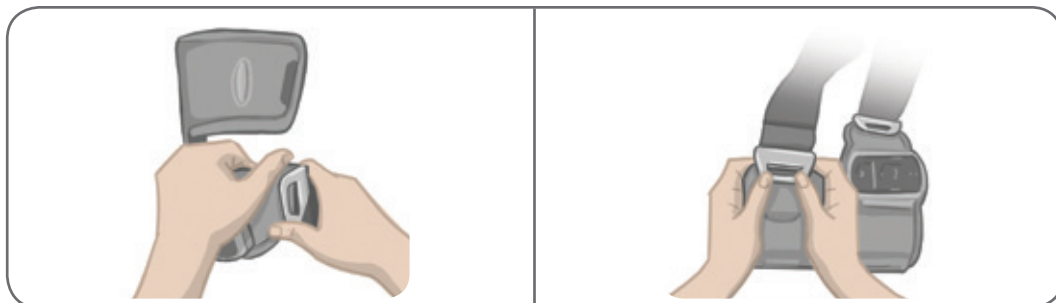

Figure 8-14: Reattaching the Thigh Straps
2. Push the strap buckle with your thumbs toward the strap (direction away from the thigh FS Cuff). See Figure 8-14.